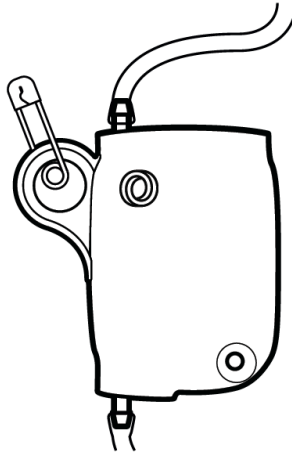

Figure 26: Origin™ with Safety pin
Step 13 – (Optional) Secure the evacuator and *Origin™* to the patient’s gown below the wound site using the safety pin provided as depicted by Figure 26 below. Ensure that the tubing is not pulled tight and there is room for the patient to move without creating tension on the tubing or dressing.